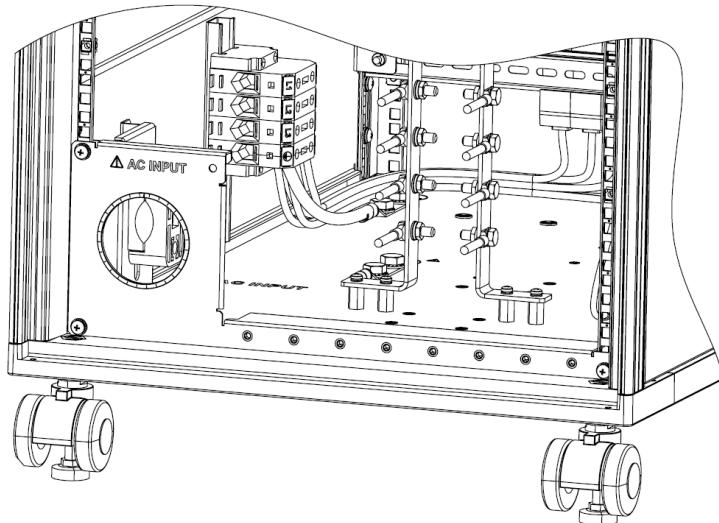

Figure 4-14: Fixing Bus Bars Cover to the Rear Panel
2. Fix the wires to the Bus bars as shown in Figure 4-14 and Figure 4-1515.